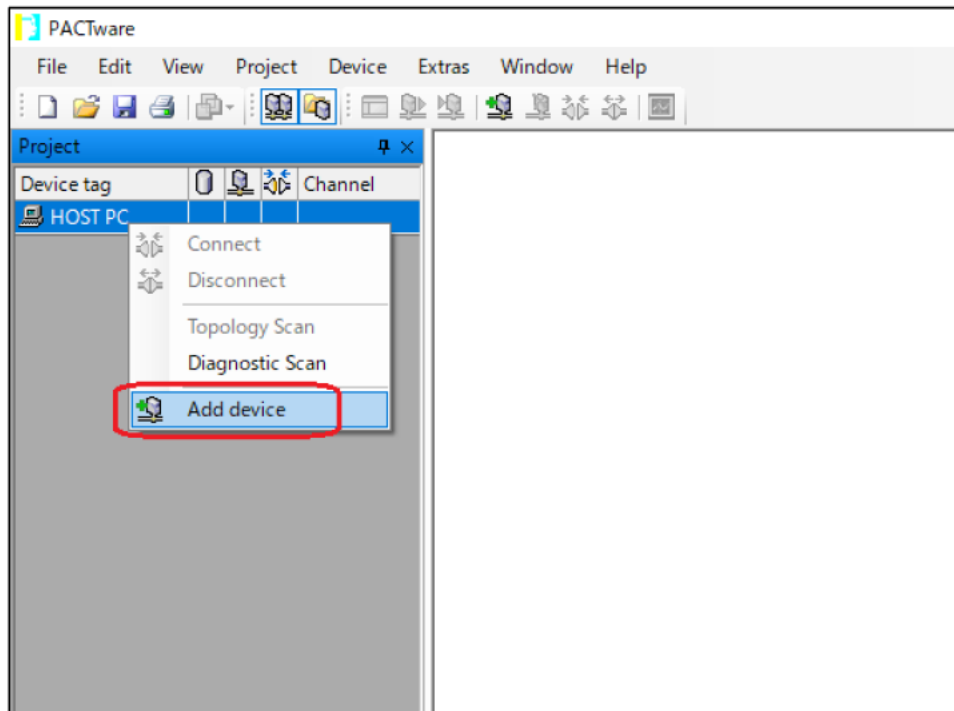

Figure 5-22 Selecting "Add device" menu
- ① First launch the DTM for the ISA100.11a wireless upstream system. Right-click "HOST PC" in the tree menu on the left side of the main window, then select "Add device". (Figure 5-22)